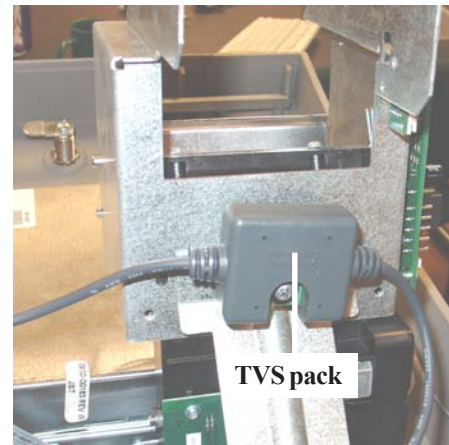

Figure 4. Remove screw that secures TVS pack.
5. Using a phillips screwdriver, remove the screw that secures the TVS pack from the printer bracket shown in Figure 4. Retain the screw and lay the TVS pack down and out of the way of the strut screws.